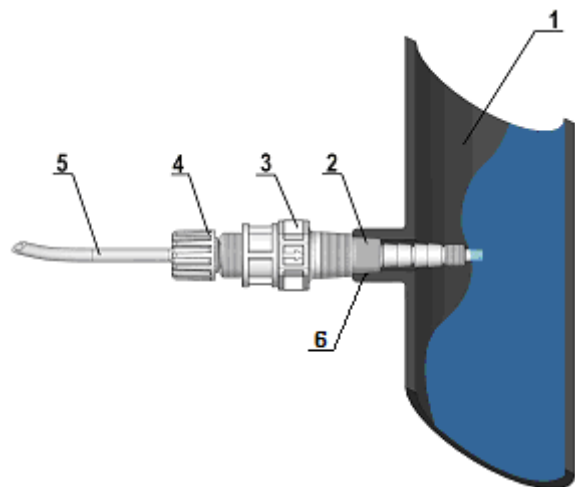

Fig.8
Avoid unnecessary curves and narrow on both the discharge and suction pipes. Apply a 3/8" or 1/2" BSP female nipple on the conduct of the plant to be treated, in the most suitable location for the injection of the product to be closed. This nipple is not supplied. Screw the injection valve on the nipple using PTFE tape as a seal (Figure 8). Connect the tube to the conical adapter of the injection valve and secure with the hose ring nut (4). The injection valve is also a no-return valve.